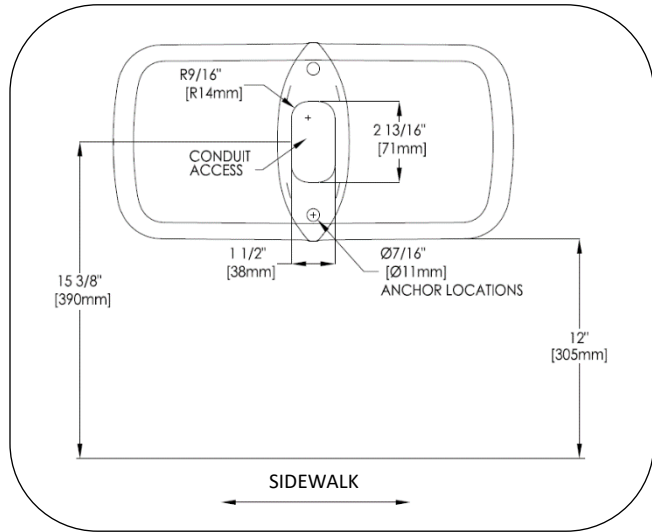

Fig. 1 – sidewalk setback and conduit access
1. Prepare footing as required by local codes, see Figs. 1 and 2.